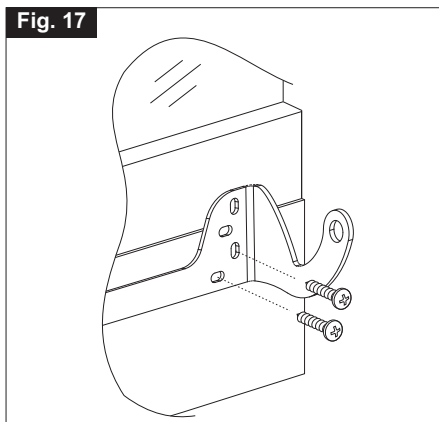

Fig. 18
- 7) **Fig. 18-** Insert the chain end before the left connection point (**Ref. 2**) and then on the right connection point (**Ref. 1**);